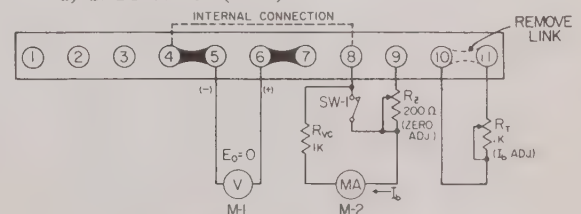

FIG. 3-2 PROGRAMMING RATIO CALIBRATION, METHOD #1
- Connect calibration set-up as shown in Fig. 3-2.